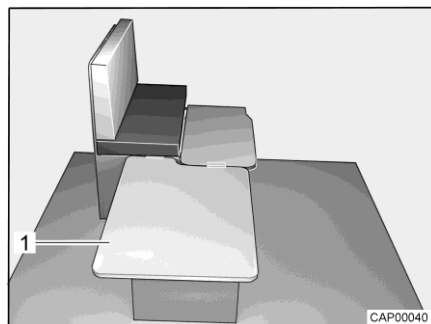

Fig. 62 During conversion
- Hook removable board (Fig. 62,1) in on the side of the bench and place it on the table.